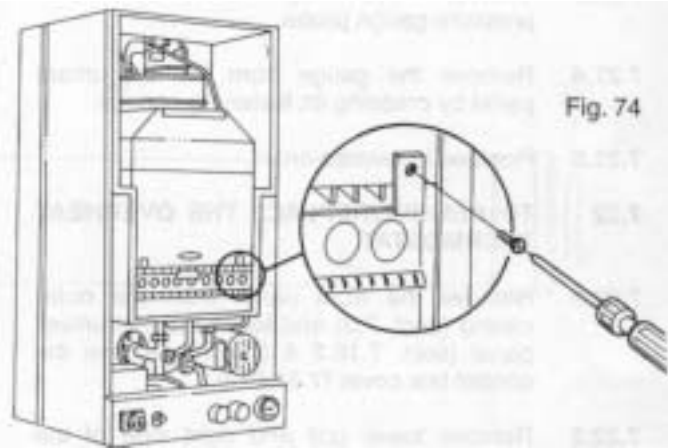

Fig. 74
- 7.15.5** Remove the two screws securing the main burner to the combustion chamber (Fig. 74).